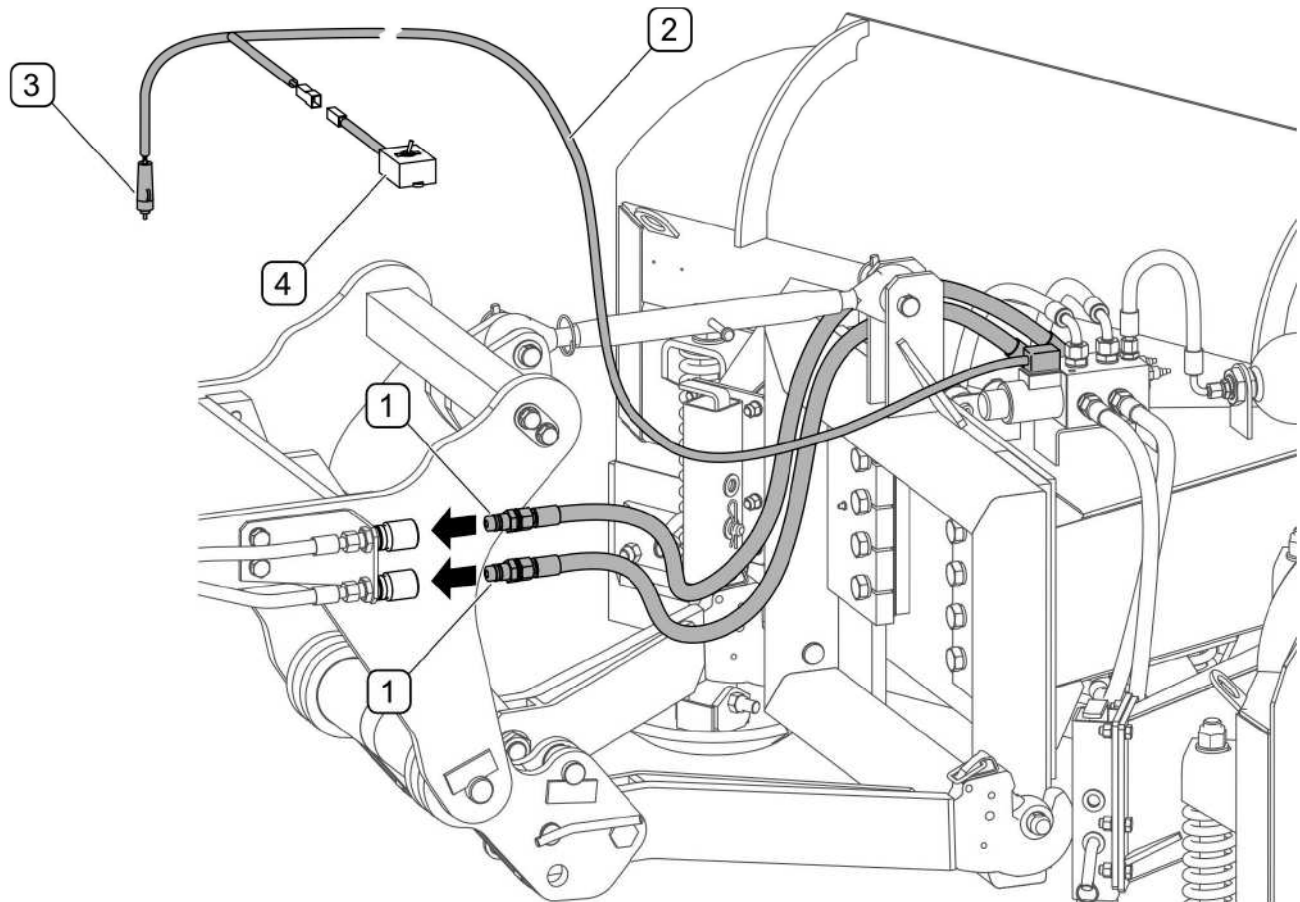

FIGURE 4.3 Connecting hydraulic and electrical system to tractor
Connect plough control hydraulic conduit connectors (1) to the tractor external hydraulic outlets (FIGURE 4.3). When connecting hydraulic conduits to the tractor make sure they are arranged without bends and twists, and are protected from damage.